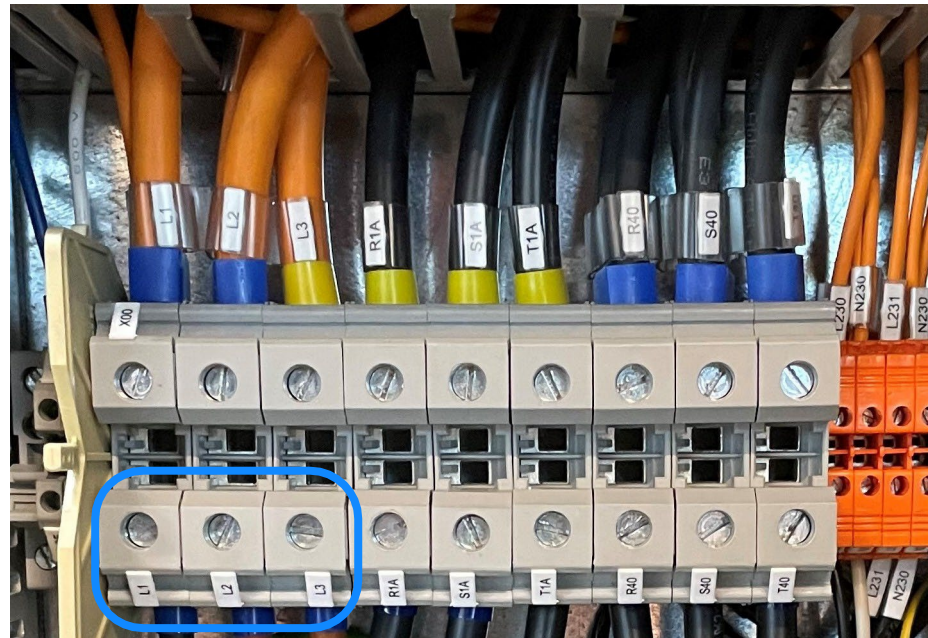

Figure 1-11: L1, L2, L3 Terminals
2. Connect the main electric cable, L1, L2, L3, to main power terminals, Figure 1-11.